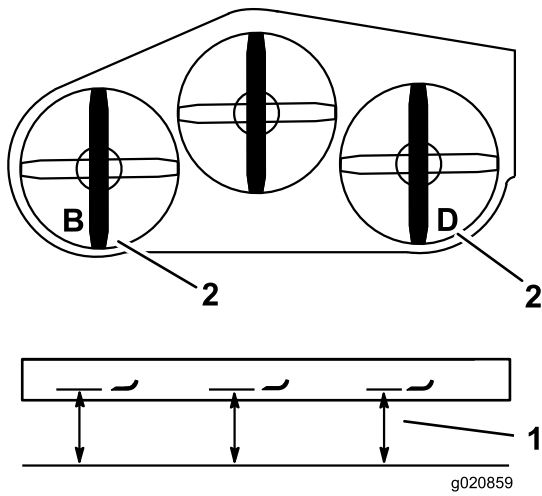

Figure 83
2. Measure the left blade at the **B** location, from a level surface to the cutting edge of the blade tip, and record this measurement (Figure 83).
3. Measure the right blade at the **D** location, from a level surface to the cutting edge of the blade tip, and record this measurement (Figure 83).
**Note:** The measurement at position **B** needs to be within 3 mm (1/8 inch) of the measurement at position **D** (Figure 83). If it is not correct, proceed to the following steps.